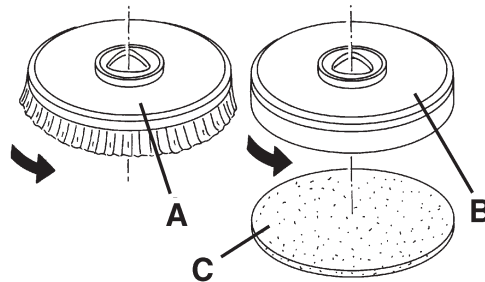

Figure 1
1. Disconnect the power supply cable (3) from the electrical mains.
2. Place the brush (A, Fig. 1) or the pad-holder (B) under the deck (14).
3. Lower the deck on the brush/pad-holder by pressing the pedal (8).
4. Connect the power supply cable (3) to the electrical mains.
5. Press the switch (51) to turn on the machine and the accessories.
6. Press one of the switches (55) to engage the brush or the pad-holder.
*Do not press the switches (55) too much, otherwise the machine will start.*
7. To remove the brush/pad-holder lift the deck by pressing the pedal (8), then manually remove the brush/pad-holder from the hub, by turning it in the opposite direction to the normal rotation direction.